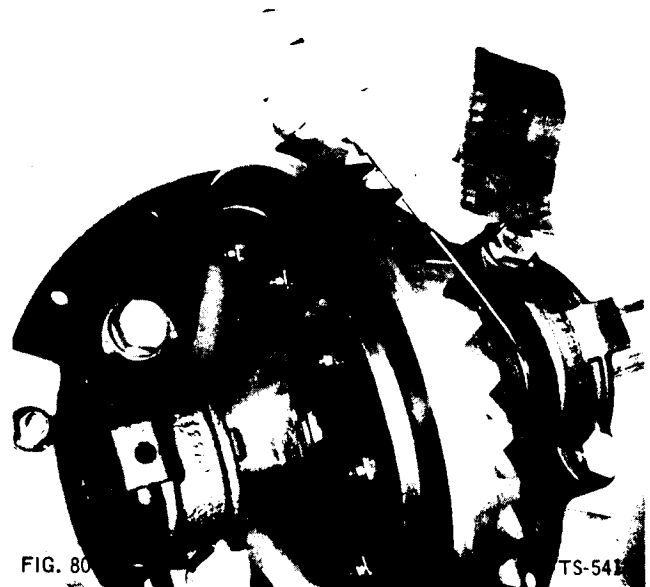

FIG. 80
4. Tighten bearing adjusting nuts to adjust bearings to zero end play. This condition may be checked with screwdriver as shown (Fig. 80). All bearing rollers must rotate as ring gear rotates, but it should not be possible to move bearing rollers sideways in cage when prying against them with screwdriver.